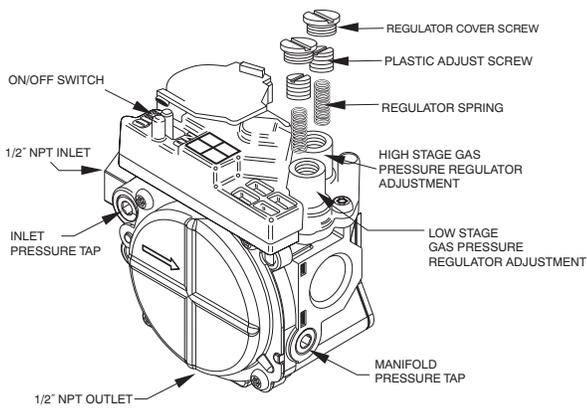
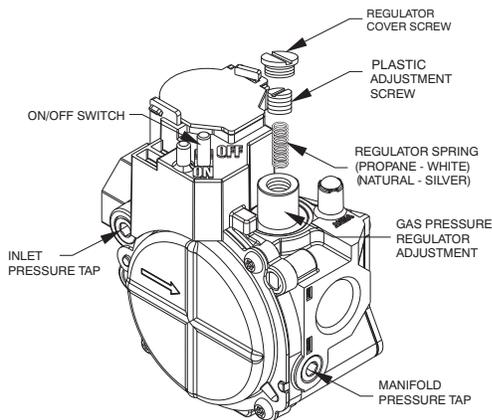

Fig. 13 - Two-Stage Gas Valve (208/230 VAC Models)
Fig. 14 - Single-Stage Gas Valve (460 VAC Models)
1. Remove regulator cover screw(s) over plastic adjustment screw(s) on gas valve (Fig. 13 For 208/230 VAC models, Fig. 14 For 460 VAC models).
2. For 208/230 VAC models only: Turn the high stage plastic adjustment screw clockwise to increase gas input and counterclockwise to decrease input (see Fig. 13). For 460 VAC models only: Turn the plastic adjustment screw clockwise to increase gas input and counterclockwise to decrease input (see Fig. 14). Manifold pressure must be between 3.2 and 3.8 IN. W.C. For high stage on 208/230 VAC models and for single stage on 460 VAC models.
3. For 208/230 VAC models only: Replace high stage regulator cover screw on gas valve (see Fig. 13). For 460 VAC models only: Replace regulator cover screw on gas valve (See Fig. 14).
4. For 208/230 VAC models only: turn the low stage plastic adjustment screw clockwise to increase gas input and counterclockwise to decrease input (see Fig. 13). Low stage manifold pressure must be between 1.4 and 2.0 IN. W.C.
5. For 208/230 VAC models only: Replace low stage regulator cover screw(s) on gas valve (see Fig. 13).